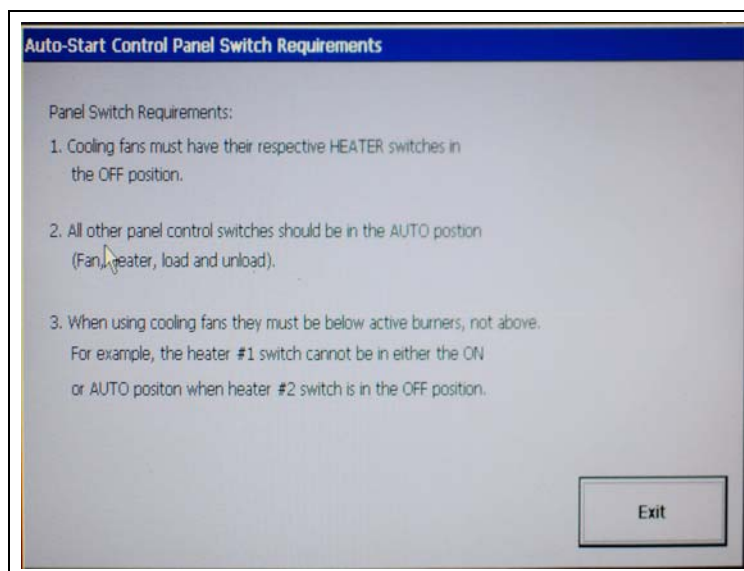

Figure 5K Auto-Start Control Panel Switch Requirements Screen
**IMPORTANT:** Before you can select your Auto-Start options, you must setup the control panel switches. An "Auto-Start Control Panel Switch Requirements" screen will pop-up as a reminder before you can access the configuration screen. (See Figure 5K.)